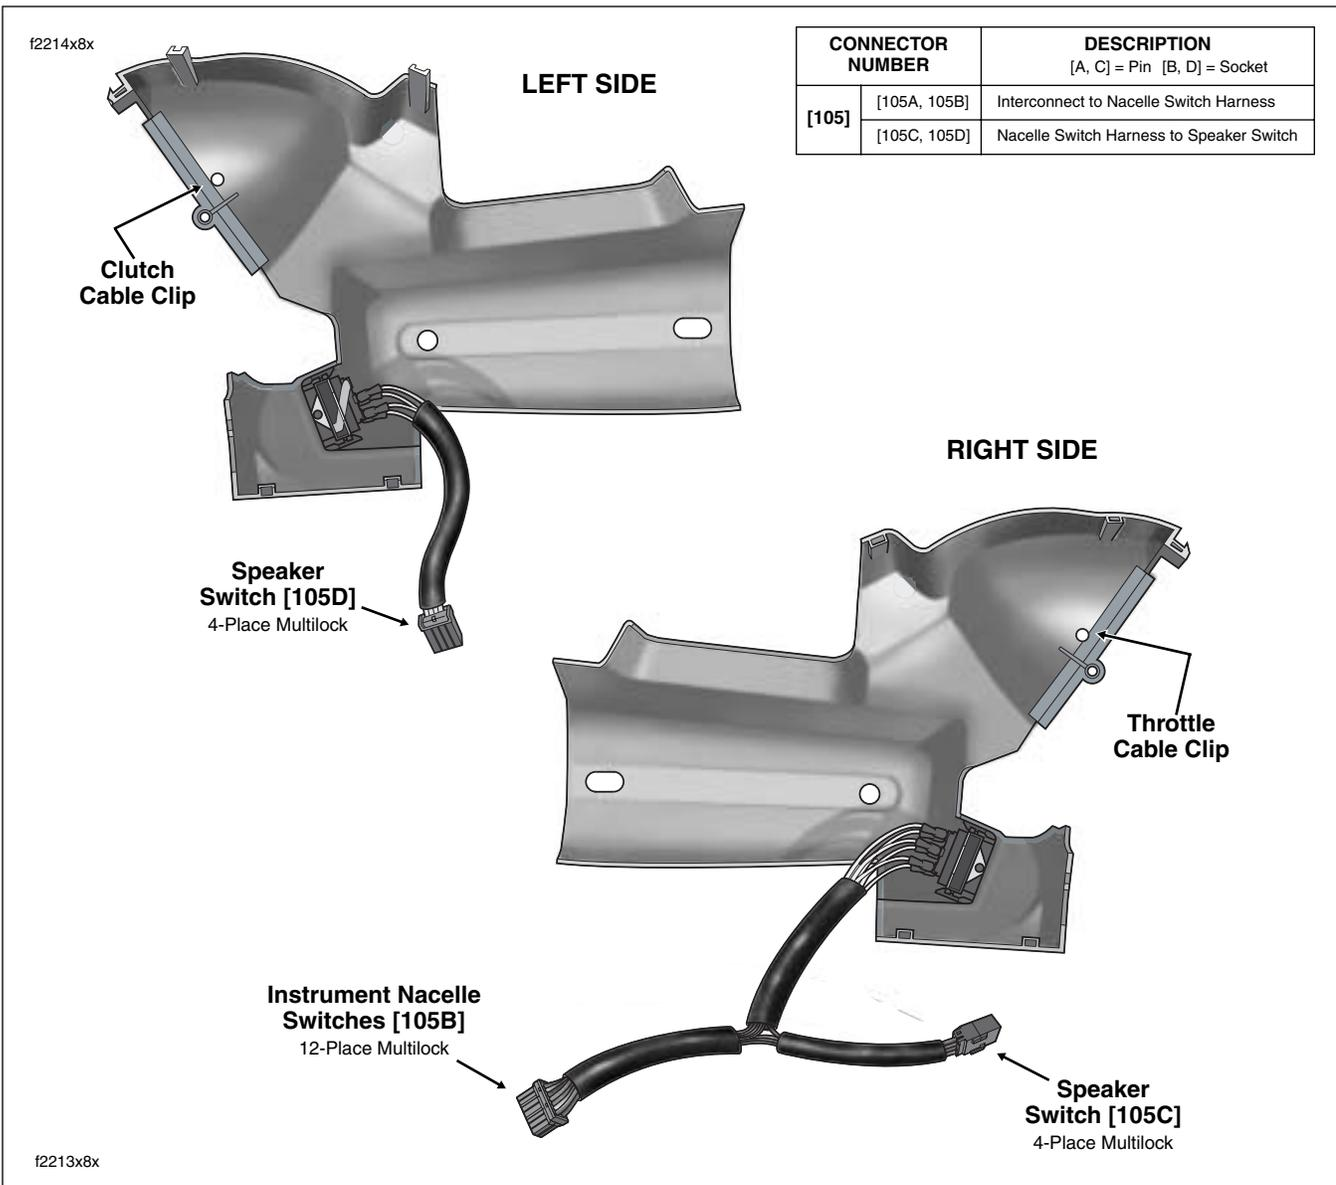

Figure 8-86. Instrument Nacelle Halves
- Unthread rubber boot from odometer reset switch, and while carefully removing left side instrument nacelle from motorcycle, pull odometer reset switch from hole. Move left side of nacelle to bench area leaving right side on motorcycle. See Figure 8-86.
- Remove two T40 TORX bolts (with flat washers) to release right side of instrument nacelle from upper and lower fork brackets. Move right side of nacelle to bench area leaving left side on motorcycle. See Figure 8-86.